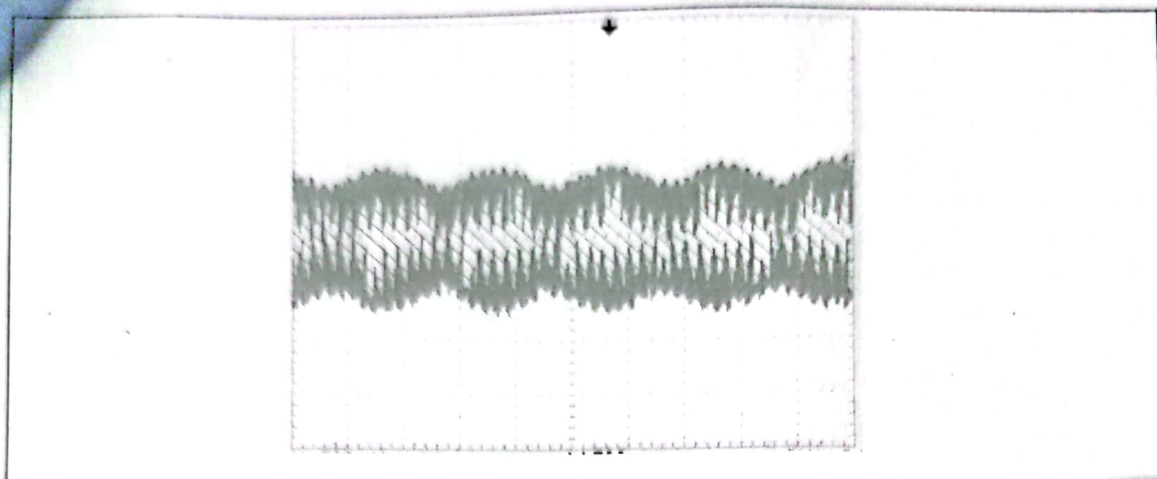

Figure 8: Oscilloscope photo of an AM modulated signal.
5. Observe the signal between JP30 and GND. You should see an amplitude modulated (AM) 27.000 MHz signal as shown in Fig 8. Set your oscilloscope time scale to 500  $\mu$ s/div. Set the ACQUIRE mode to Peak-detect. This setting allows the oscilloscope to capture the peak of the RF signal even though the sampling rate of the oscilloscope is not enough to capture the RF signal itself. Increase the signal amplitude until AM signal gets distorted. At this point, determine the modulation index,  $m$ , of the AM signal using the following equation